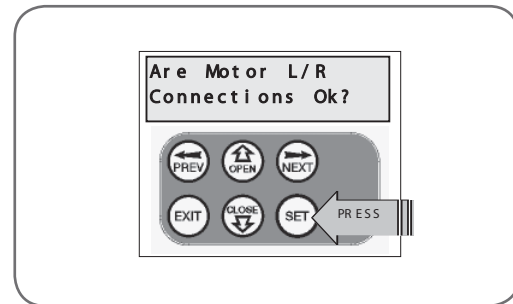

fig 13
1. Confirm motor connection is set for correct side (Fig. 13).